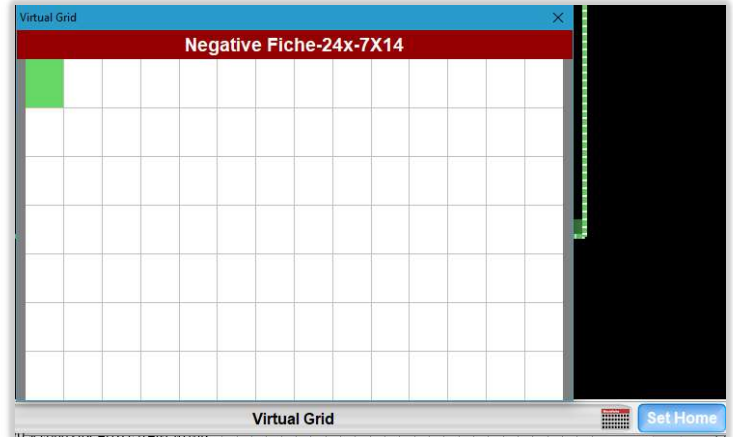

Figure 83
- x. Move about the *Virtual Grid* by clicking on various virtual grid cells to confirm the accuracy of the grid. Make sure the images fall completely within the image area. *Figure 83*